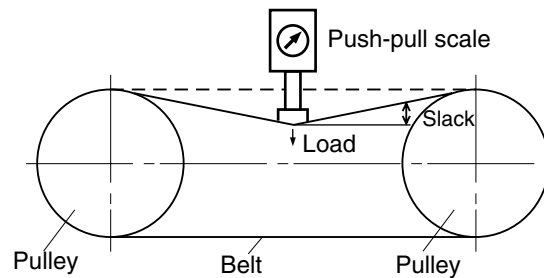
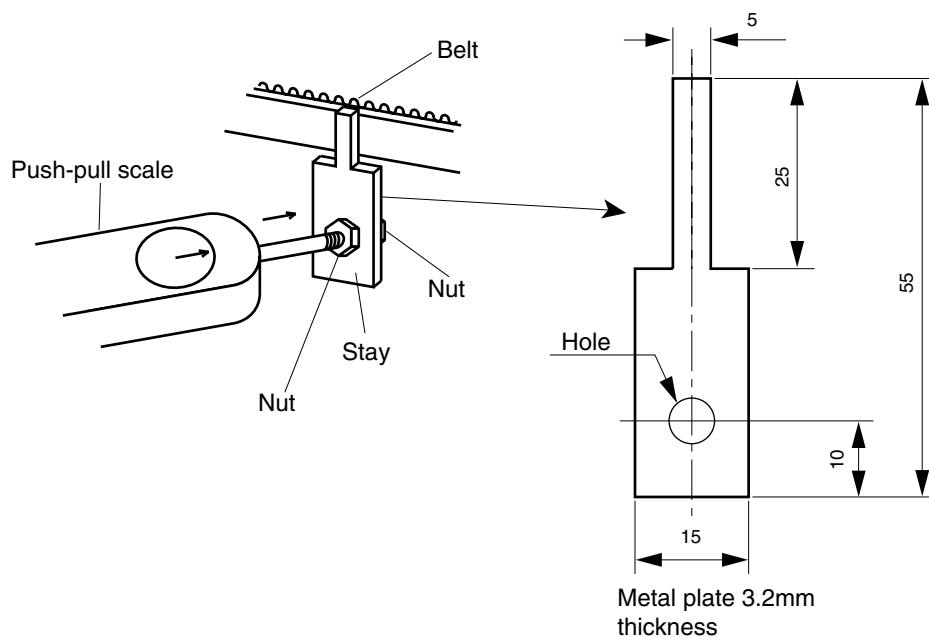

Fig. 4-10 Belt tension adjustment
Fig. 4-11 Stay (example)
- Stay (See Fig. 4-11. This stay should be prepared by the user.)
Using the push-pull scale, one person applies a load perpendicular to the middle of the belt. The other person checks the slack of the belt. (See Fig. 4-10 and Fig. 4-11.)
Using the push-pull scale, one person applies a load perpendicular to the middle of the belt. The other person checks the slack of the belt. (See Figs. 4-10 and 4-11.)